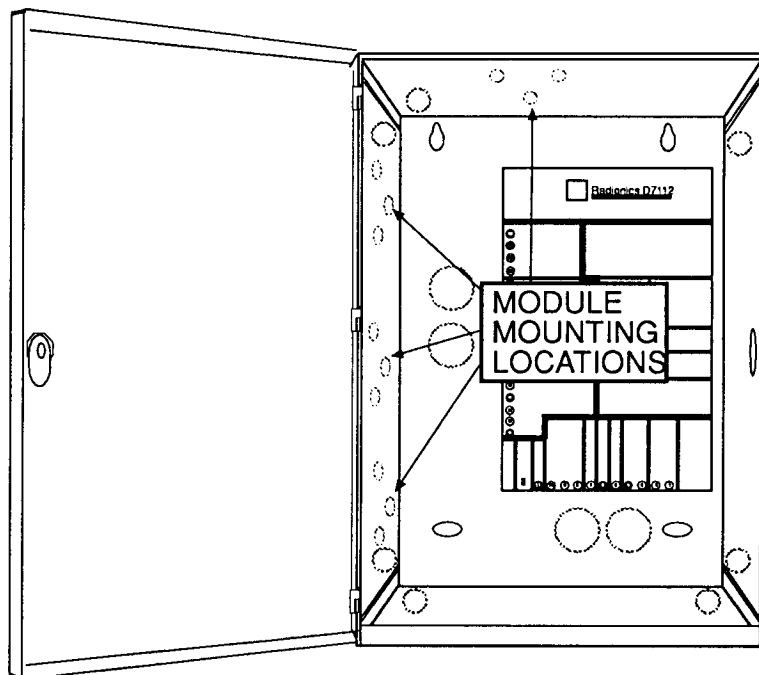

Figure 2: D7103 Enclosure
3. Mount the enclosure in the desired location. Use all four mounting holes. See Figure 2.
2. Align the module with any of the four mounting locations. See Figure 2. Using the three mounting screws provided with the module, fasten the module in place.
**Install the D7125 in the top module location only:** See Figure 2.